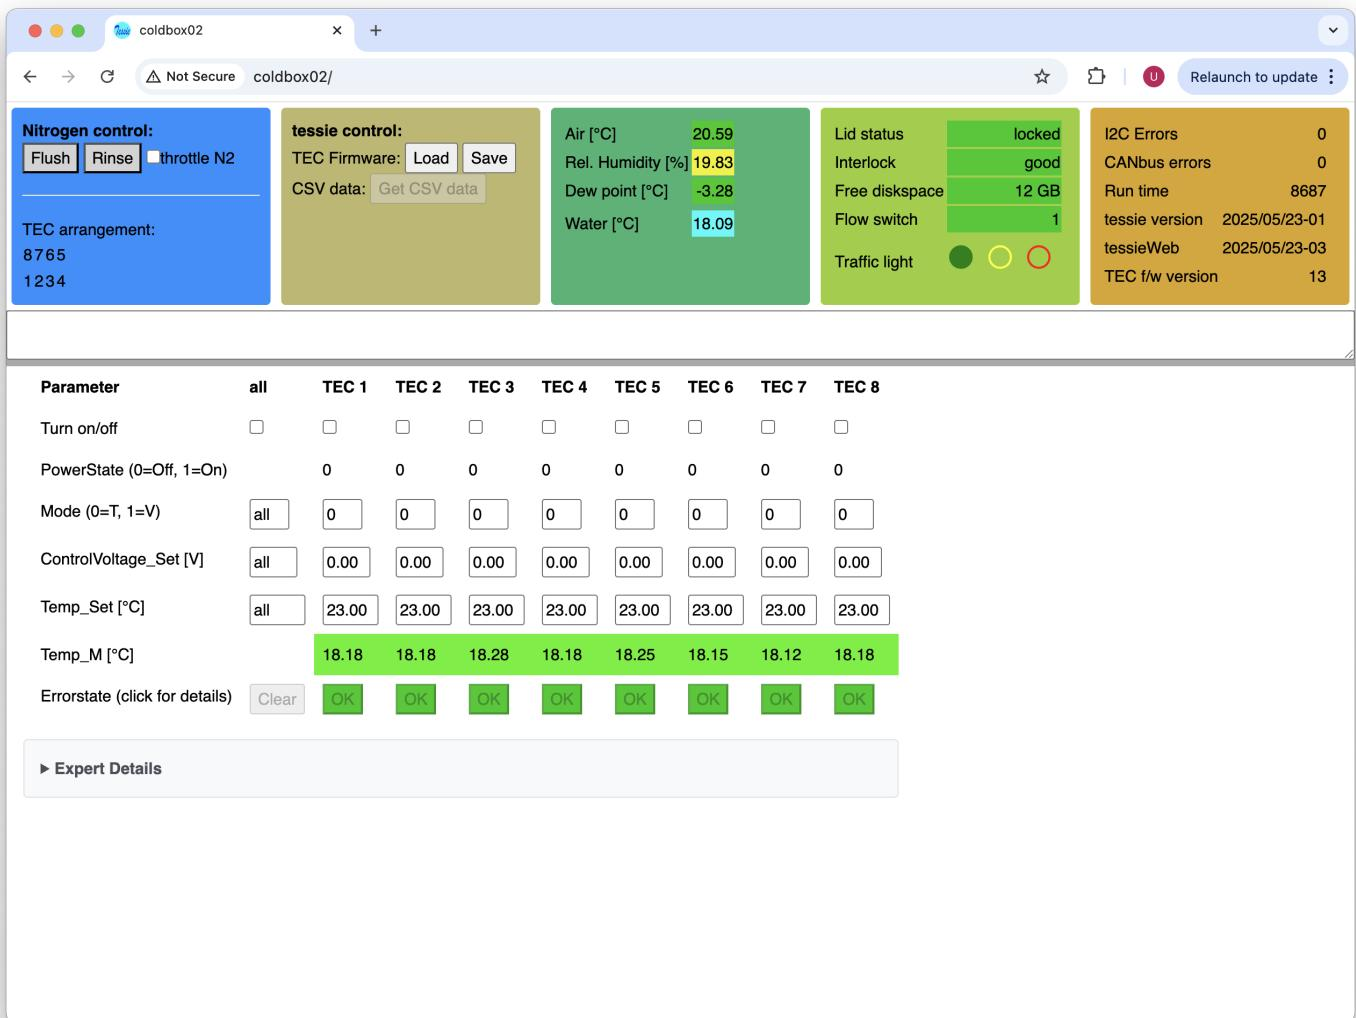

Figure 8: Web graphical interface to **tessie**. The top right brown-yellow box will turn red in case the connection to **tessieWeb** is interrupted.
The normal manual way to interact with `tessie` is through a webbrowser. Point your favorite browser to `http://coldbox03`, cf. Fig 8.
Figure 7: The GUI appearing on the Raspberry Pi touch screen. The interaction possibilities are limited to (1) controlling the N2 flow with **Rinse** and **Flush**, (2) stop operations with "STOP ALL" which will turn off all TECs, turn on maximal N2 flow by opening both the rinse and flush valves, and breaking the HV/LV interlocks, (3) resetting the interlocks, (4) "Quit"-ing the program, and (5) sounding the test alarm. The **Rinse** and **Flush** buttons will have a greenish background color when these valves are open and N2 is flowing. Their font is white in case N2 throttling is active and black in case it is not. For full control of **tessie** you should use the web interface shown in Fig. 8.